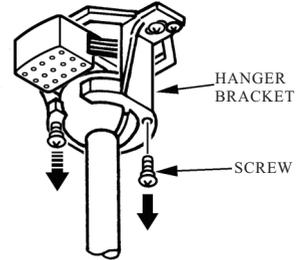

FIG. 8
3. Remove one of screws and loosen the other screw from the hanger bracket. (see Fig. 8)